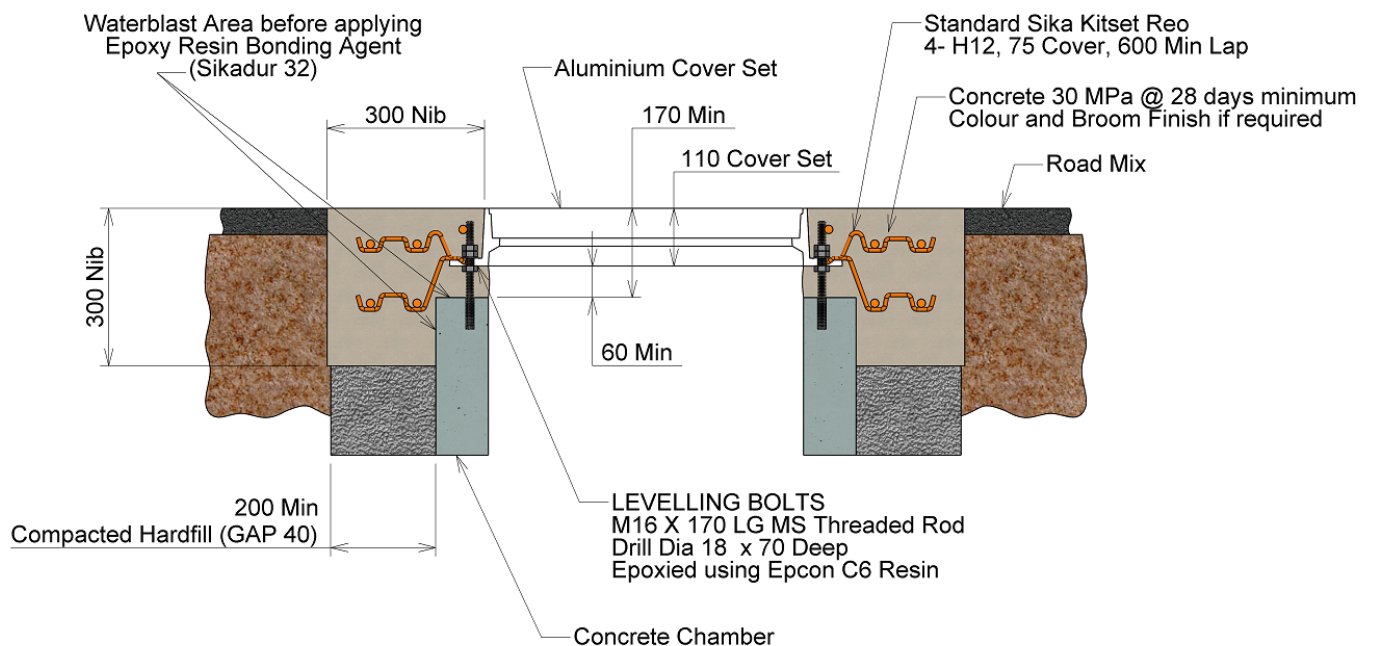

Fig 2– Typical Concrete Chamber Installation
- The minimum concrete support collar is 300 x 300 mm. Use minimum concrete strength 30 MPa at 28 Days complete with Sika Reinforcing Steel Kit Set. *Ref Fig 2*